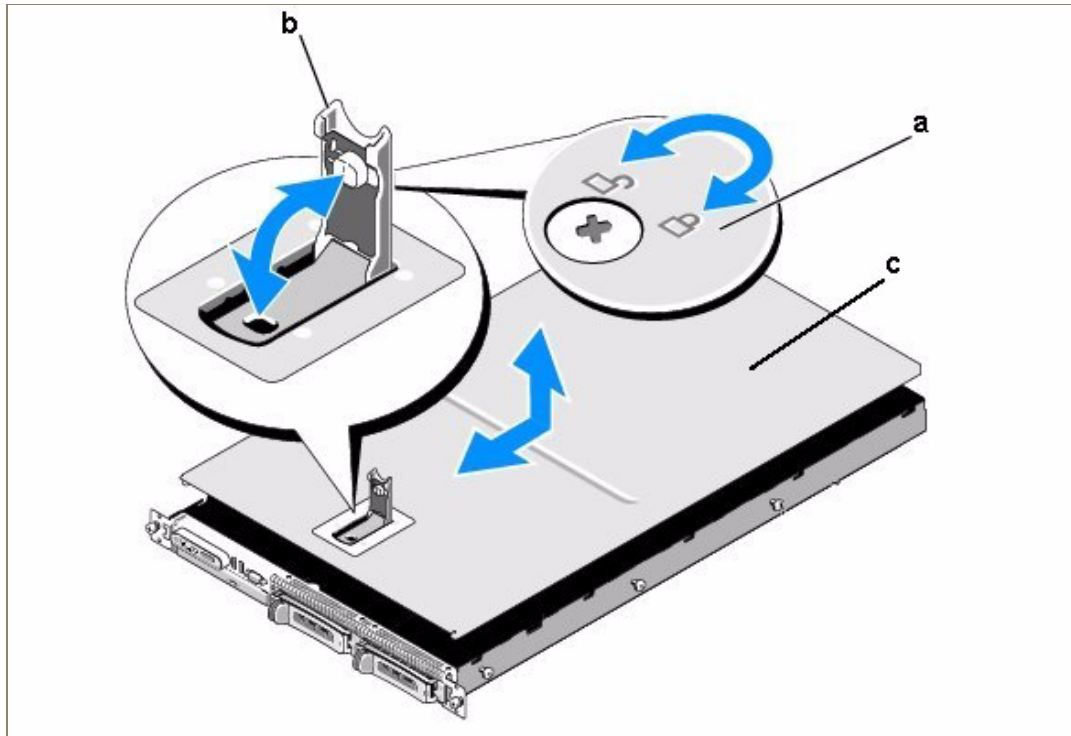

Figure 2-2 Removing the cover from the appliance
- 3 Remove the cover (see Figure 2-2).